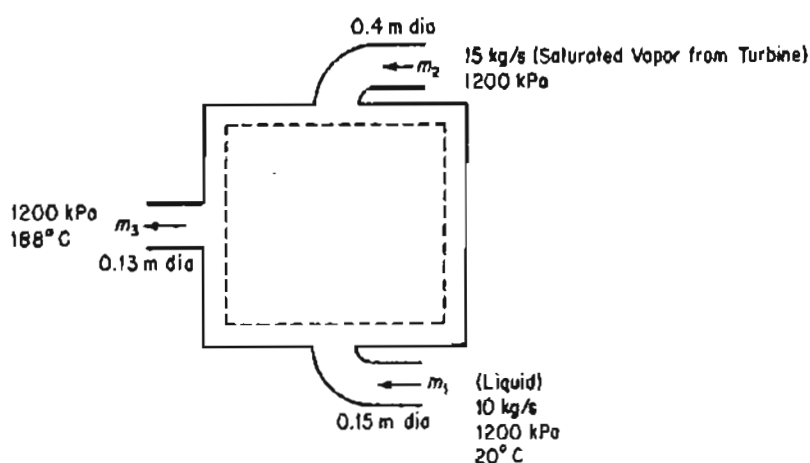

Figure P24.31
- **24.31** Feedwater heaters are used to increase the efficiency of steam power plants. A particular heater is used to preheat 10 kg/s of boiler feed water from 20°C to 188°C at a pressure of 1200 kPa by mixing it with saturated steam bled from a turbine at 1200 kPa and 188°C, as shown in Figure P24.31. Although insulated, the heater loses heat at the rate of 50 J per gram of exiting mixture. What fraction of the exit stream is steam?